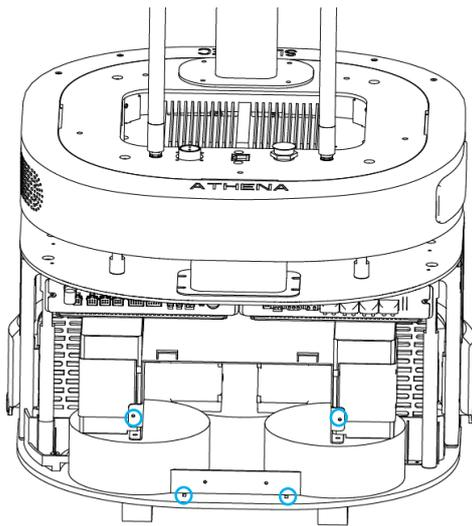
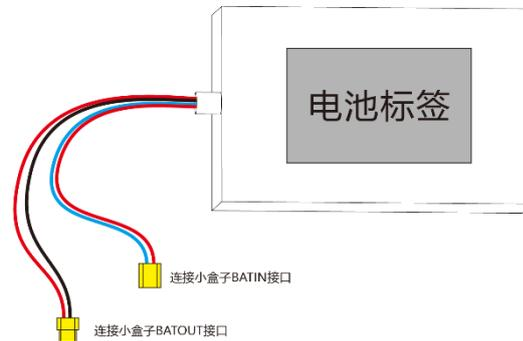

Figure 14
Figure 15
- As shown in Figure 14, unscrew the four blue circled M3\*5 screws and remove the battery lid, the battery is shown as in Figure 15.